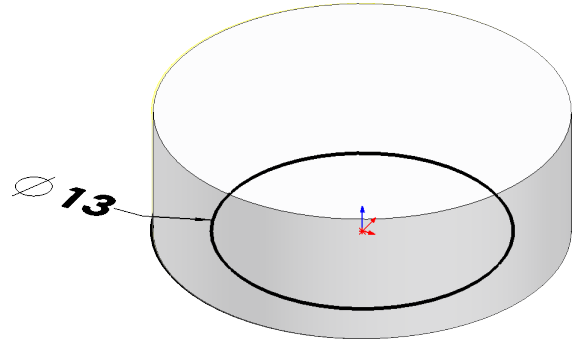

Fig. 6
Step 2. Click **Circle**  (S) on the Sketch toolbar.
Step 3. Sketch **circle at Origin** , **Fig. 6**.
Step 4. Click **Smart Dimension**  (S) on the Sketch toolbar.
Step 5. Dimension **diameter 13**, **Fig. 6**.